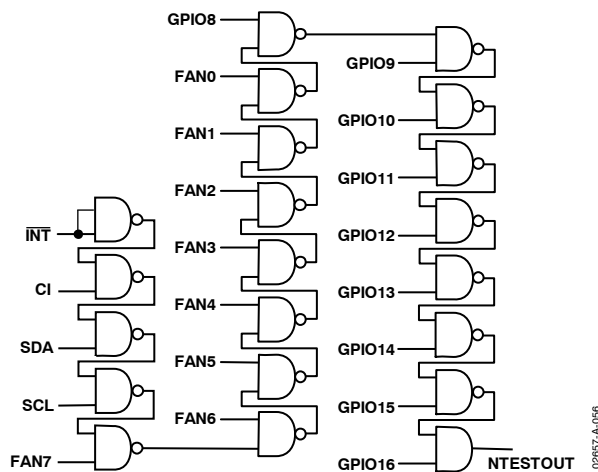

Figure 56. NAND Tree
A NAND tree is provided in the ADM1026 for automated test equipment (ATE) board-level connectivity testing. This allows the functionality of all digital inputs to be tested in a simple manner and any pins that are nonfunctional or shorted together to be identified. The structure of the NAND tree is shown in Figure 56. The device is placed into NAND tree test mode by powering up with Pin 25 held high. This pin is sampled automatically after power-up, and if it is connected high, then the NAND test mode is invoked.
- If any of the inputs shown in Figure 56 are unused, they should not be connected direct to ground, but via a resistor such as 10 k $\Omega$ . This allows the automatic test equipment (ATE) to drive every input high so that the NAND tree test can be properly carried out.